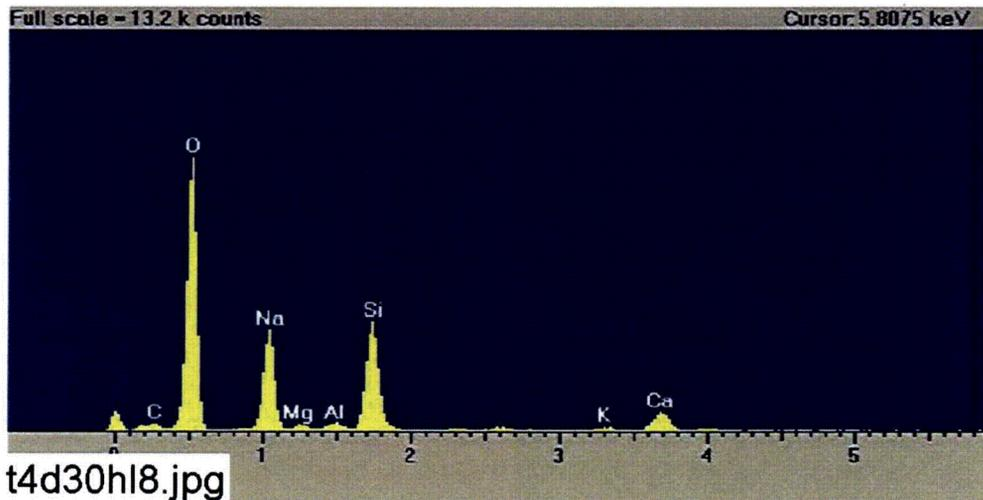

Figure C5-7. EDS counting spectrum for the spot of substance attached on fiberglass shown in Figure C5-6. (t4d30h18.jpg)
- Figure C5-7. EDS counting spectrum for the spot of substance attached on fiberglass shown in Figure C5-6. (t4d30hI8.jpg)..... C5-7